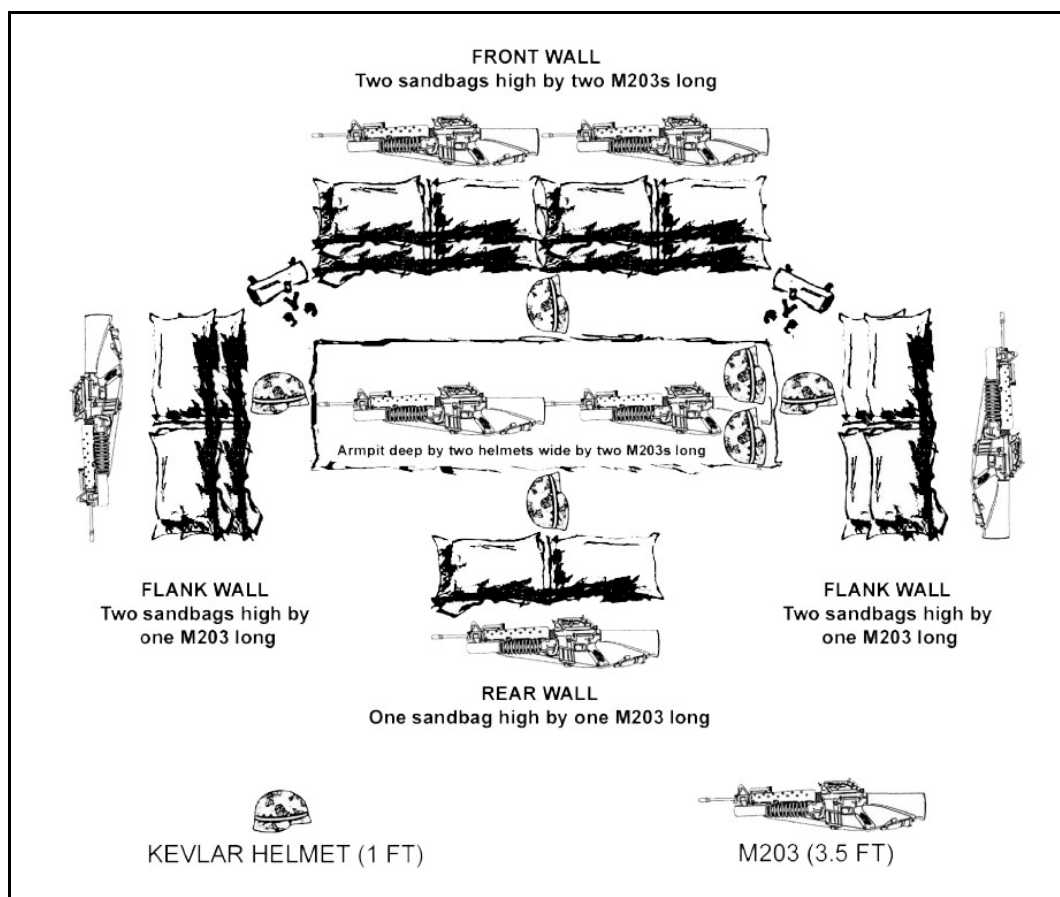

Figure D-12. Stage 2, Preparation of a fighting position.
- There is a minimum distance (equal to the width of one helmet) from the edge of the hole to the beginning of the front, flank, and rear cover (Figure D-12).